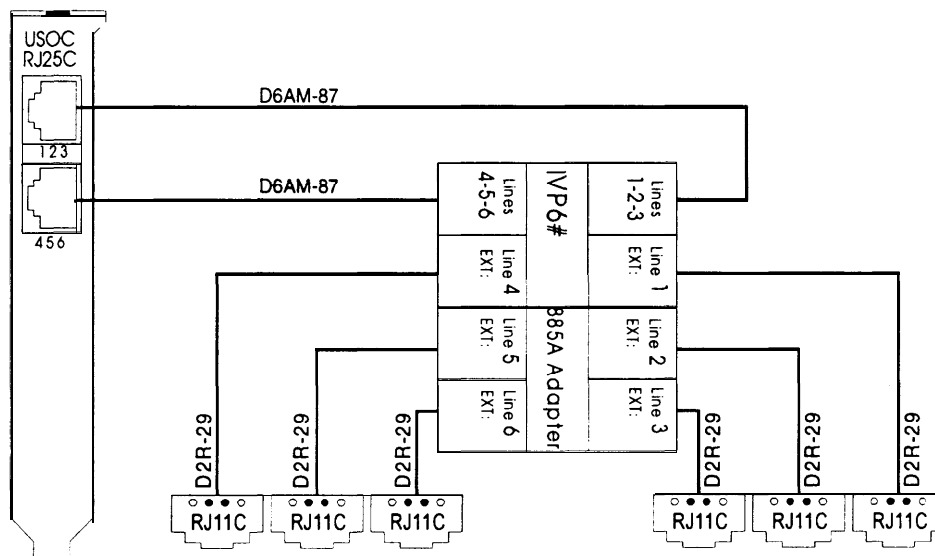

Figure 2-7. IVP6 Board with 885A Adapter for RJ11C
2. Use a type 885A adapter to consolidate the six individual line pairs into three pairs in each of two cables. (See Figure 2-7.)